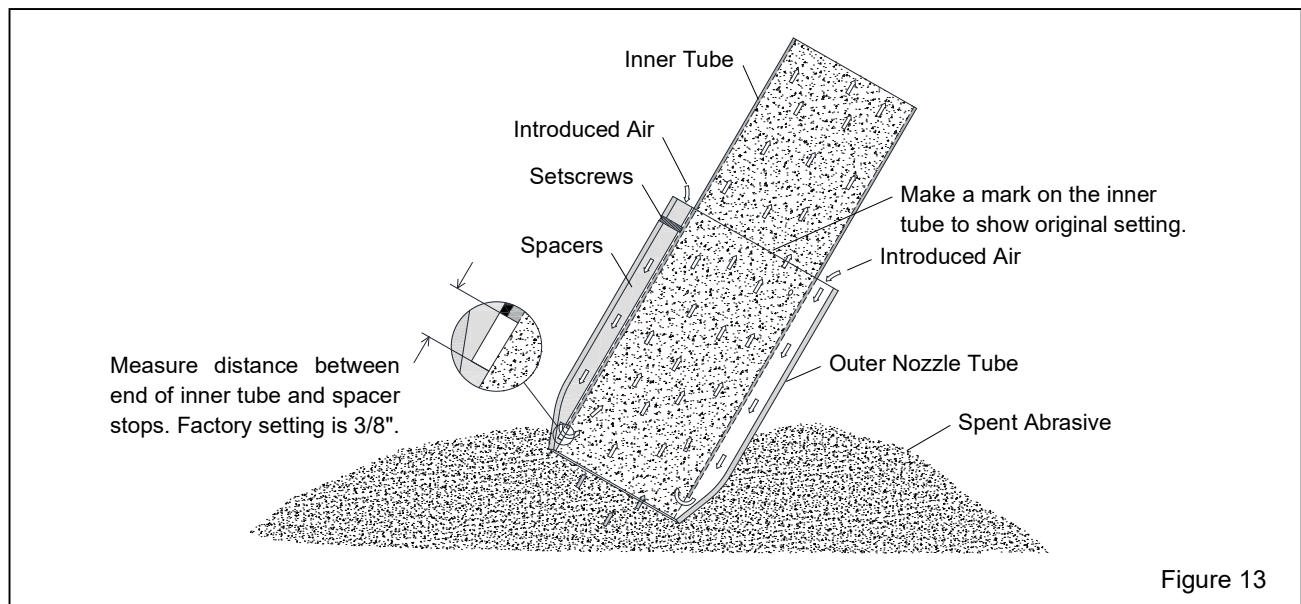

Figure 13
7.2 Suction Nozzle – Figure 13
7.2.1 Make a mark on the inner tube along the rim of the outer tube. Doing so provides a fast reference for measuring the offset and to return the tool to factory setting. Factory setting is 3/8" between the end of the inner tube and spacer stops, as shown in Figure 13.
7.2.2 Loosen the three setscrews on the outer nozzle-tube collar, at the hose end of the suction nozzle, as shown in Figure 13.